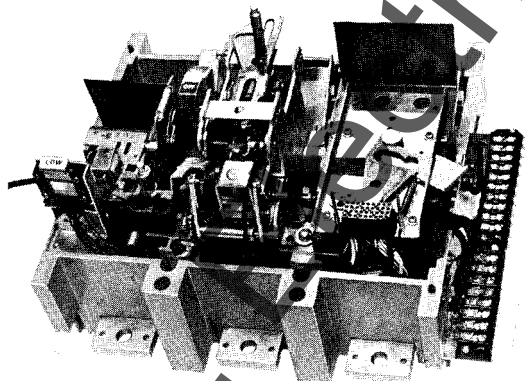

Fig. 23.
3. If auxiliary switches are to be installed in the right pole, remove interchangeable solid state trip unit by depressing lock release lever while lifting up on trip unit. Remove trip unit mounting plate. See Fig. 23.